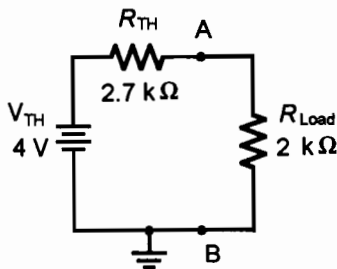

Figure 2.2
*NOTE:* The calculations for this particular circuit have been completed on pages 30 and 31 of the textbook. Figure 2.2 shows the equivalent (Thevenized) circuit after your calculations.
9. Modify your circuit to the Thevenin equivalent (Figure 2.2 where  $R_L = 82 \text{ k}\Omega$ ).